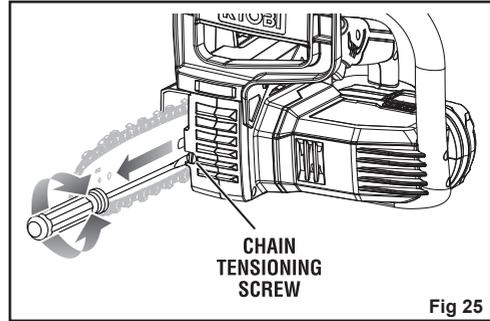

Fig 25
- Loosen the chain tension by turning the chain tensioning screw counterclockwise. See Fig. 25.